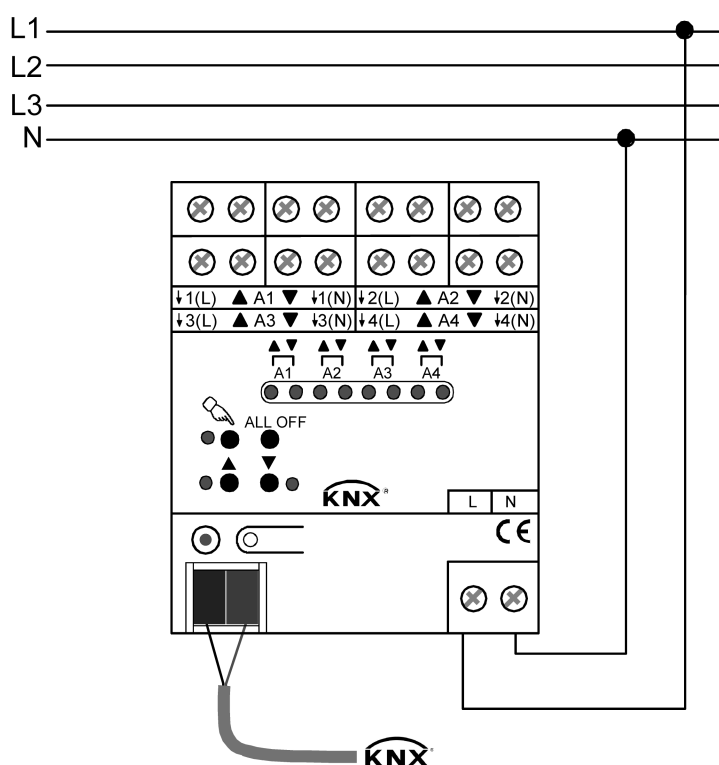

Figure 2: Electrical connection of mains voltage and bus cable
- Connect the bus (standard bus terminal) and the mains voltage as shown in the connection diagram (Figure 2).